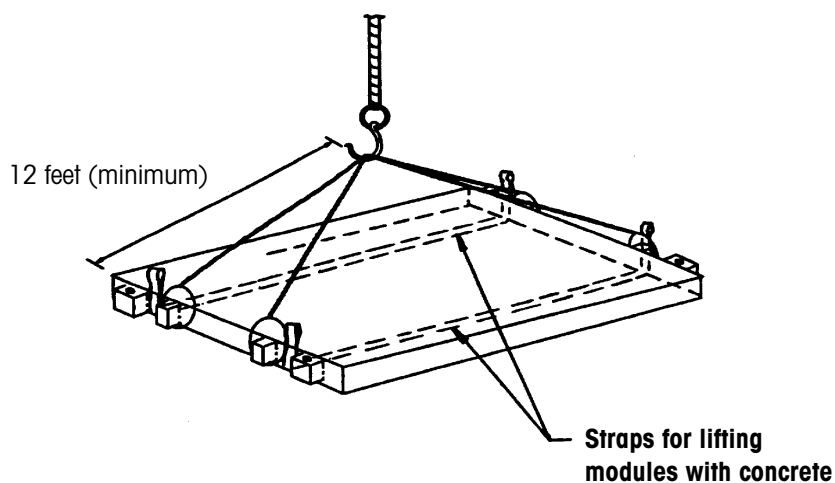
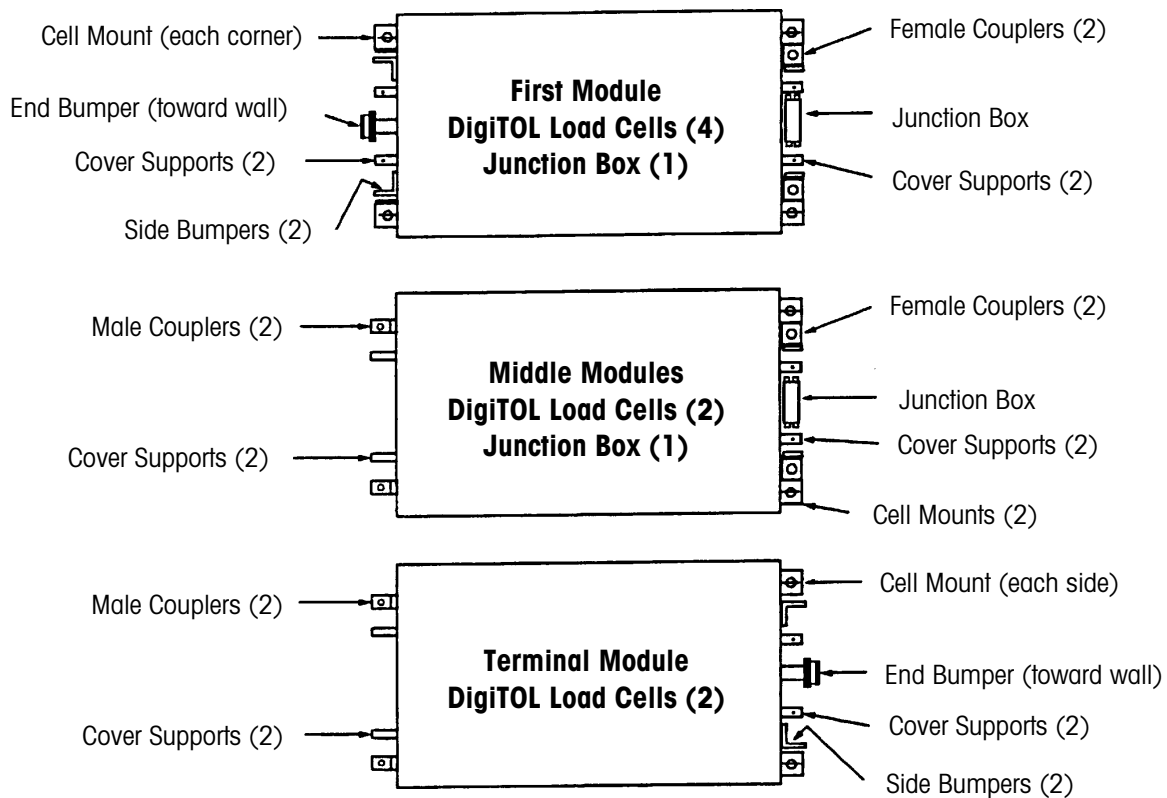

Figure 3-1: TRUCKMATE Lifting Procedure
Figure 3-2: Types of Modules
2. Lift each module by the gap cover supports via quadlift chain. To avoid damage to the scale, hook the module as shown in Figure 3-1.
Figure 3-2 shows the three types of modules. Make sure that the bottom module is stored off the ground. We recommend placing lengths of 4 x 4 lumber under the module to support it. Place additional 4 x 4's between each pair of modules. Store all other mechanical accessories in a clean, dry area. Store electrical instrumentation and load cells in a clean, dry area. If the modules will be stored for more than one month, the cable connectors should be filled with connector dielectric compound.
- a. The First Module to be set in place is the module that requires four DigiTOL load cells (see Figure 3-2). Lift the module as shown in Figure 3-1. Before setting this module in place, make sure that the end bumper assembly and side bumper bolts have been installed. Position the module so that the end with the end bumper and side bumpers faces the approach wall. The first module should be reasonably square with the end wall and spaced away from the end wall as shown in the assembly drawing.